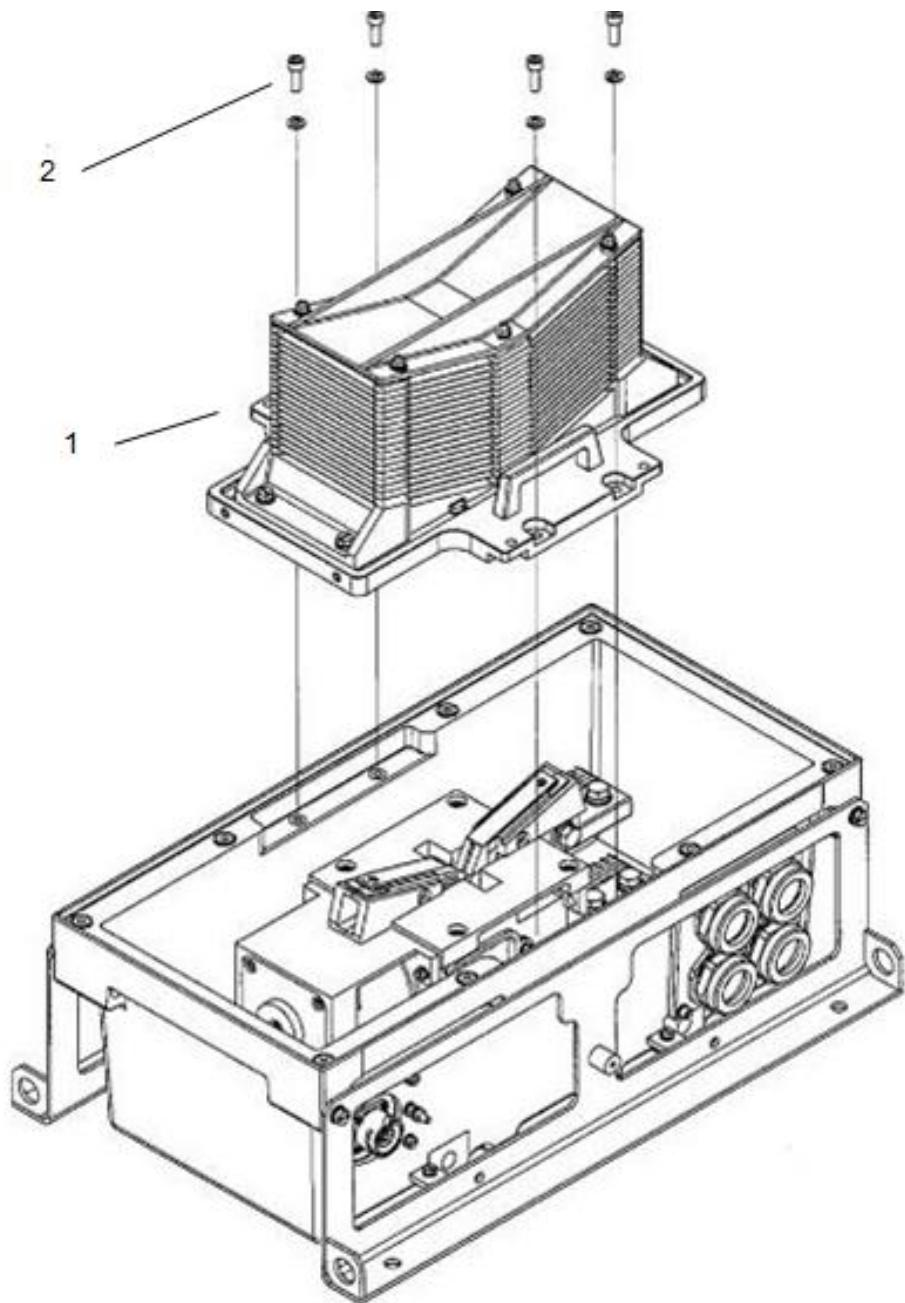

Figure 4-16: HSCB Arc Chute Removal
2. Remove four bolts (2) securing the arc chute / de-ionizing plates (1) for inspection as shown in Figure 4-16. Remove any material deposits greater than 0.5 mm. The de-ionizing plate grid thickness is nominally 2.3 mm. Replace the arc chute and de-ionizing plates assembly if any de-ionizing plate (using a micrometer) has a thickness of 1.3 mm or less.
6. With the De-ionizing Plate / Arc Chute Assembly removed from the HSCB as seen in Figure 4-16, examine the plates as seen in Figure 4-17. If any plate has a thickness of 1.3 mm (0.05 inch) or less (because of burning), replace the assembly. Check for excessive wear at arc chute base plate opening. Replace De-ionizing plate/Arc Chute Assembly if opening is more than 186 mm (7.3 inches) long. Nominal distance is 166 mm (6.5 inches). With a defective De-ionizing Plate / Arc Chute Assembly, please return it to Toyo Denki for repair.